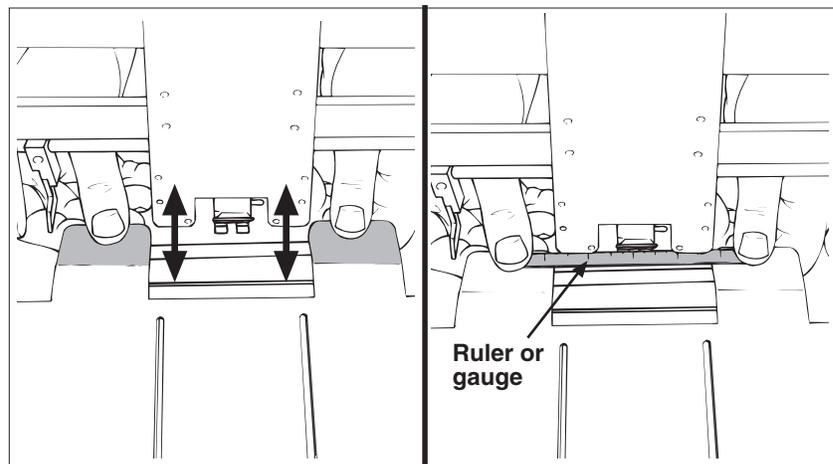

Figure 9. Repositioning Guide Tabs and Testing For Clearance
- Center the gauge on the guide tabs and slide the gauge back and forth on the tabs, making sure the gripper jaw does not touch the bottom of the gauge. See Figure 9.